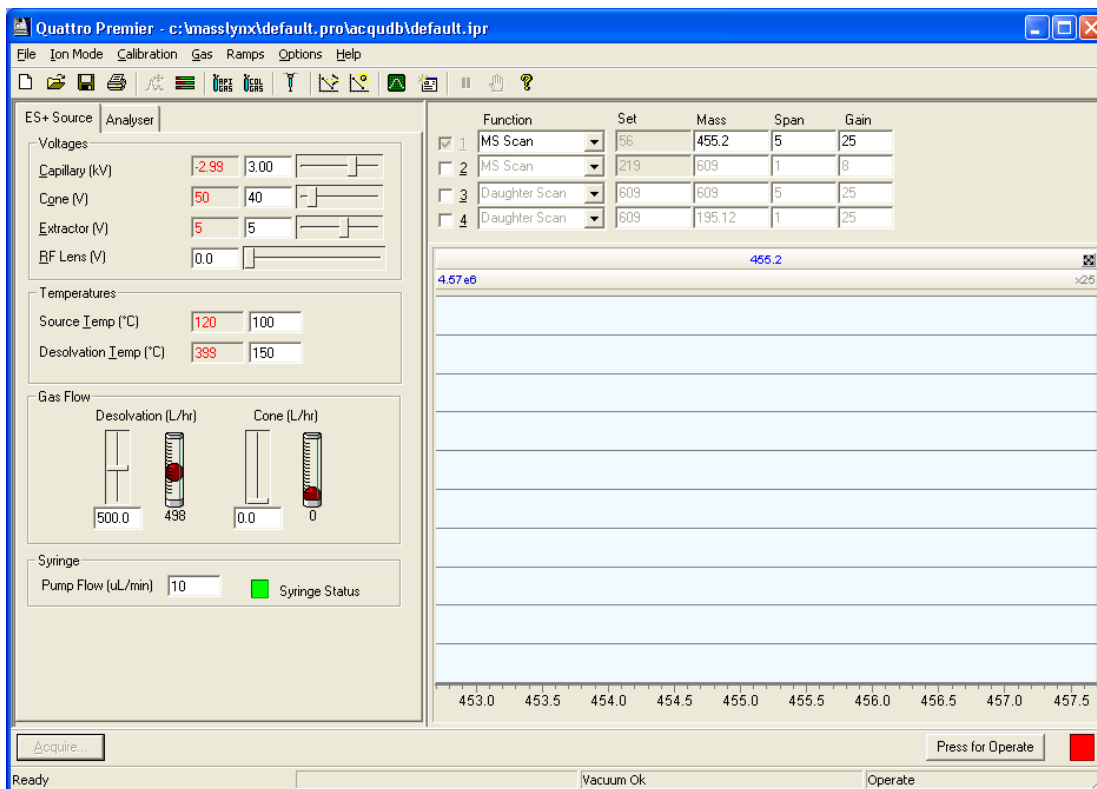

Figure 6-1 Initial Tune Window
1. If the MassLynx Tune window (Figure 6-1) is not already open, click the MassLynx window Instrument shortcut bar MS Tune icon.